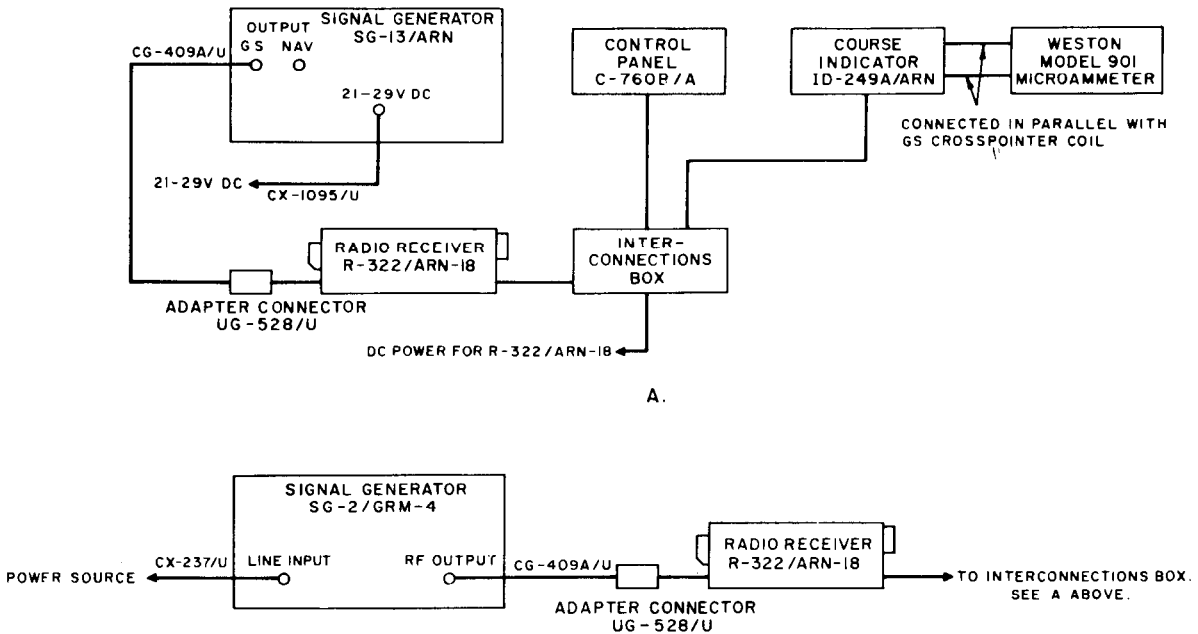

Figure 5-2. Test Setup, Glide Slope Accuracy Check
- a. Connect Signal Generator SG-2/GRM-4 through a 6-db, 53-ohm attenuator to an AN/ARN-18 glide slope receiver equipped with Course Indicator ID-249A/ARN. See B of figure 5-2 for connections.
- d. Substitute Signal Generator SG-13/ARN for the SG-2/GRM-4 and set its frequency to 332.0 mc. See A of figure 5-2 for connections.